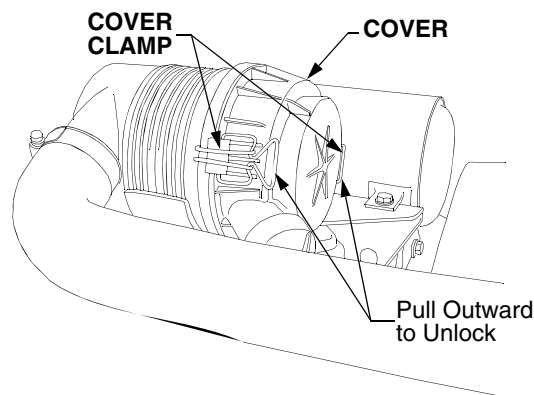

Figure 56
- Unlock the clamps to remove the air cleaner housing cover. See Figure 56.
- Position the cover on the housing. Hook the two clamps onto the rim of the housing and lock the clamps. Refer to Figure 56.